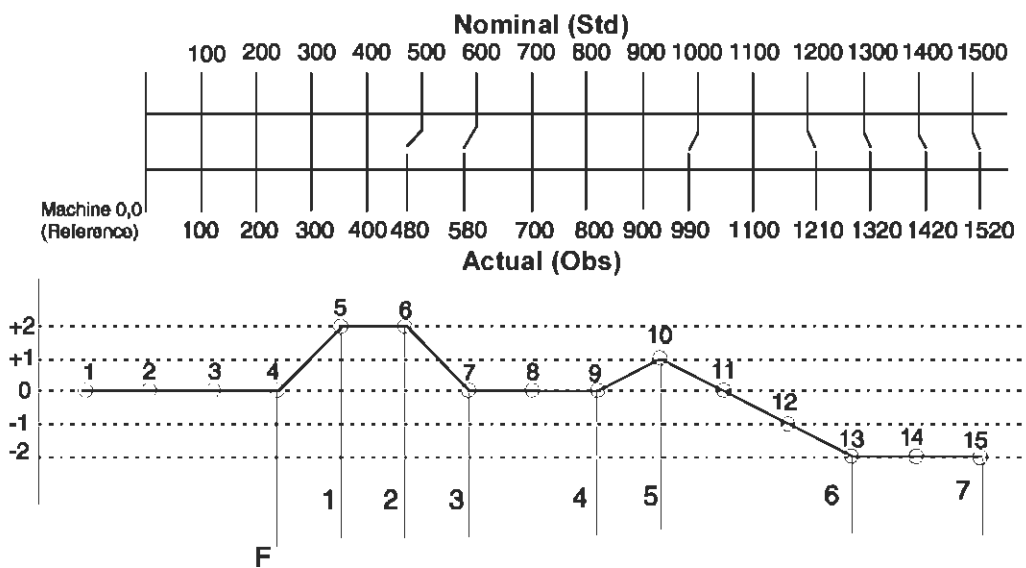

Figure 1
- As mentioned earlier, a segment is a group of known points that may be combined together to form a single linear line. Looking at figure 1, you can see that no calibration was needed for points 1 through 4 (reference 0 line). These four points can be connected to form 1 line. Now, let's look at the next one.
- If you tried connecting points 4 and 6, then point 5 would not be connected. This means that our first segment must be from point 4 to point 5. (See figure 1).
14. Press **ENTER**. "*1st X: 0.00000*" appears in the message window. The first calibration point is the first GOOD point before compensation begins. In figure 1 our first point was 400.